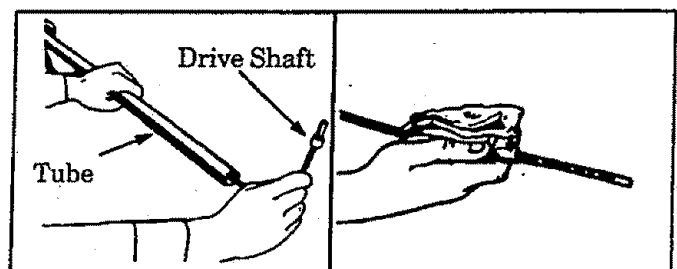

Figure 20
- After each ten (10) hours of operation.
3. Remove the drive shaft from the tube. Figure 20.
5. Using a clean cloth, wipe the drive shaft thoroughly to remove any old grease. Figure 20.
8. Replace drive shaft in the tube. Figure 20.